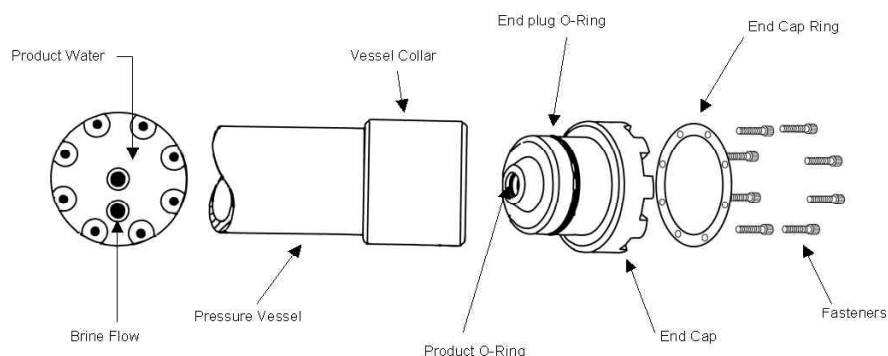
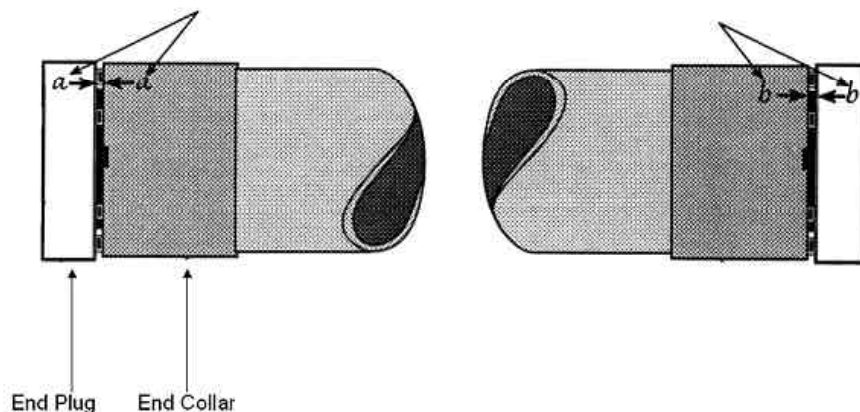

Figure 6.1 - Pressure Vessel End Plug Assembly Callout.
Figure 6.2 - Membrane Corresponding Mark Placement.
Step 2: Remove the eight fasteners and cap ring holding each end plug with an allen wrench (refer to Figure 6.1). Place a mark on each end plug to be removed, place a corresponding mark on each end collar. This will ensure proper orientation during assembly (Refer to Figure 6.2).